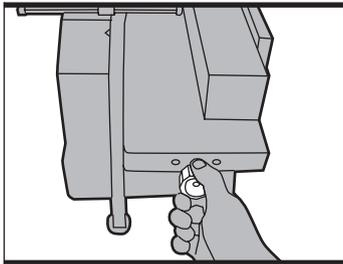

Fig 20
1.4 Setting the depth of cut. (See Fig 20)